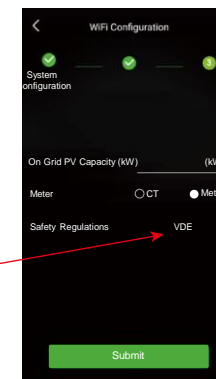
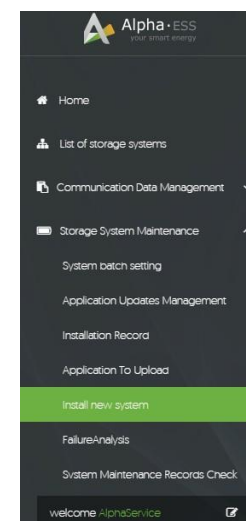

Figure 4.9 Basic Parameter Setting
Figure 4.10 Equipment Details
**Step 5** Set the basic parameters, and you can see the details of equipment, click "submit" button, as shown in Figure 4.9 and Figure 4.10